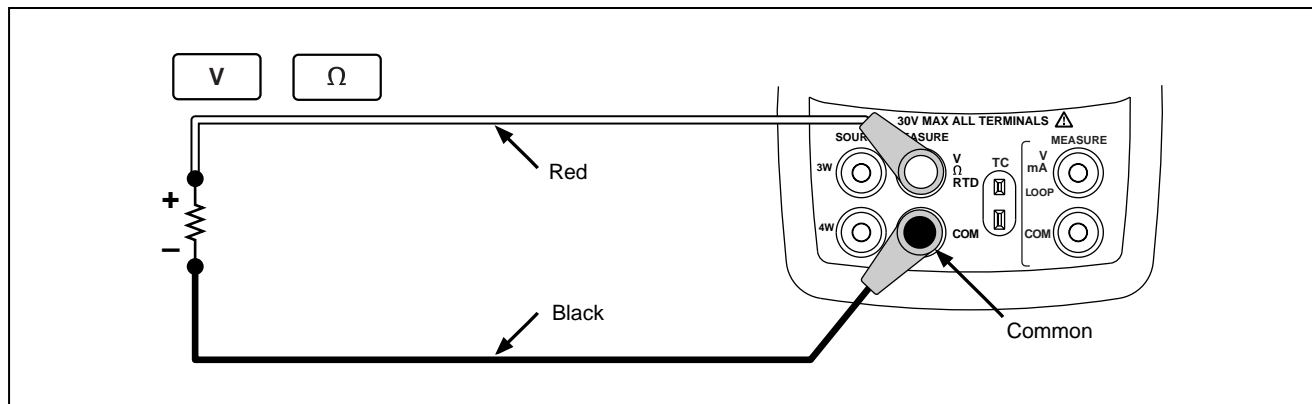

Figure 12. Electrical Sourcing Connections
1. Connect the test leads as shown in Figure 12, depending on the source function.